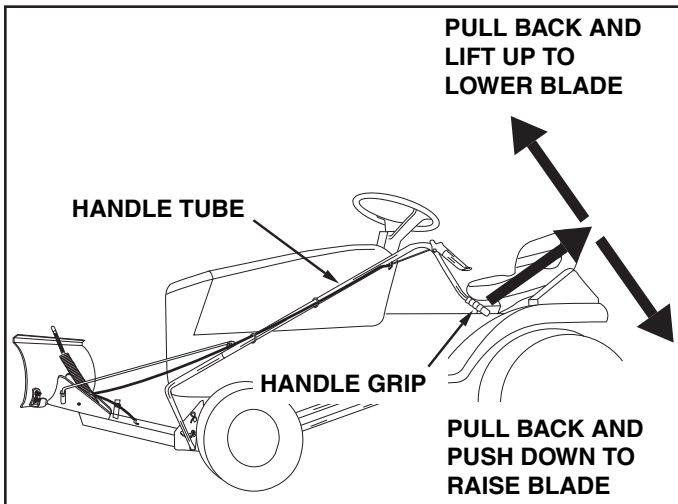

FIGURE 13
1. To raise the blade, use the handle grip located on the end of the handle tube. Pull back while pushing down on the handle grip. To lower blade, pull back while lifting up on handle grip. See figure 13.